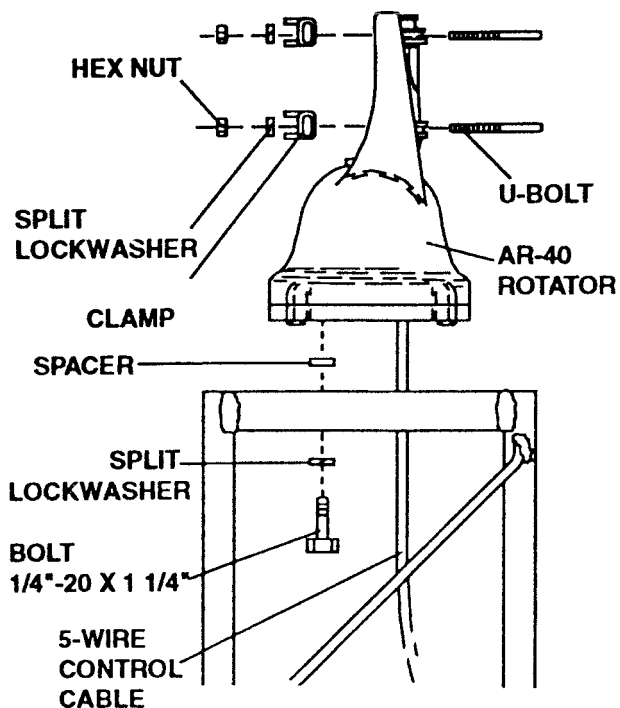

Figure 5 Rotator Mounting on a Tower Top Plate
Top of tower installation is similar to mast mounting. (See Figure 5) Spacer washers must be used between the rotator bottom and tower plate. This allows the rotator housing bolt heads to clear the tower plate. The tower plate must be drilled in four (4) places using the template provided with this manual, unless already pre-drilled. A large hole must also be drilled or cut for control cable access.